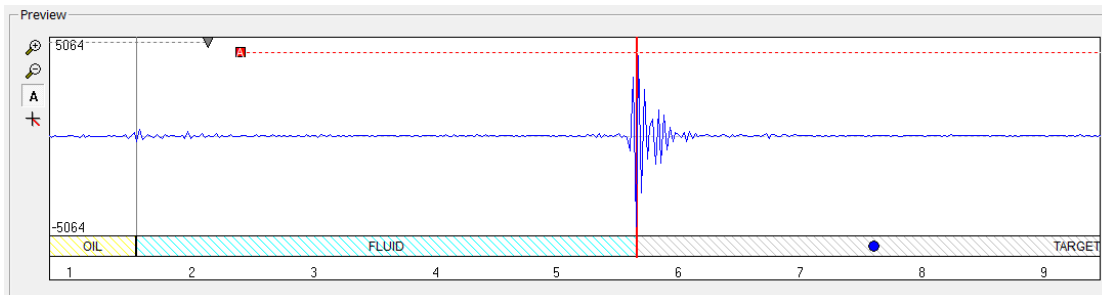

Figure 4-11 Start gate set in automatic mode
- **Automatic:** the system will automatically detect and record the highest amplitude occurring after the Acoustic Window Gate and the upper limit of the Echo Gate (Figure 4-11). Automatic is the recommended setting.